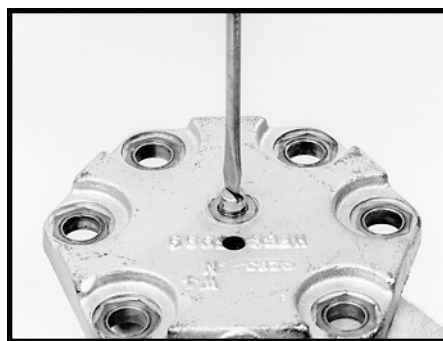

Figure 142
35. Apply a generous amount of clean grease to the short bearing area of the sector shaft (50) only if the shaft cover has a roller bearing or lightly oil short bearing area if shaft cover has a "DU" bushing. Insert the sector shaft into the side cover (58) or (58A). Screw in the sector shaft adjusting screw (51) counterclockwise into the side cover until the screw reaches solid height. Then, rotate the adjusting screw clockwise one turn, so that the side cover will rotate freely on the sector shaft. SEE FIGURE 142.